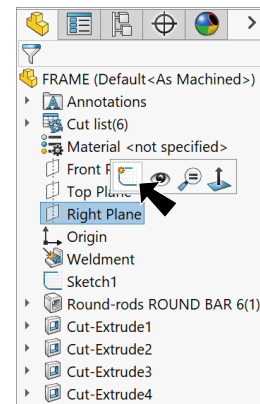

Fig. 42
Step 1. Click **Right Plane**  in the Feature Manager and click **Sketch**  on the context toolbar, Fig. 42.
Step 3. Click **Circle**  (S) on the Sketch toolbar.